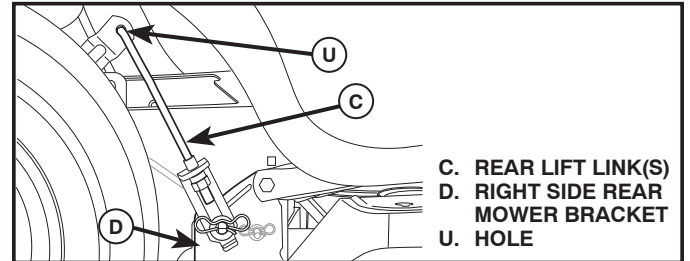

Fig. 12
7. ATTACH REAR LIFT LINKS (C) (See Fig. 12)
- Insert rod end of rear lift link (C) into hole (U) in tractor lift shaft suspension arm and pivot link down to mower.
- Lift rear corner of mower and position slot in link assembly over pin on rear mower bracket (D) and secure with large washer and large retainer spring.